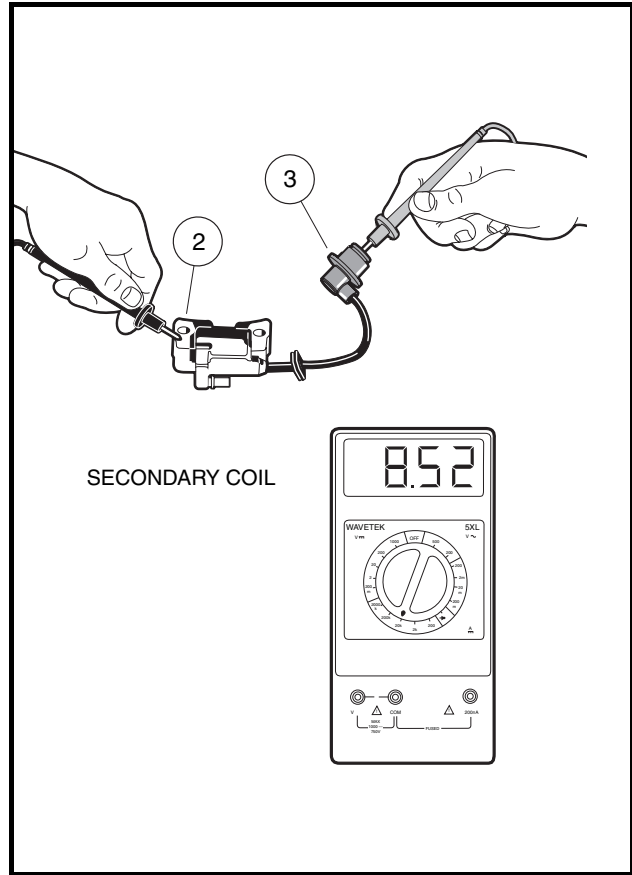

Figure 11-25 Secondary Coil and Cap Resistance – Bench Test
- 3.1. Place the red (+) probe of the meter into the end of the spark plug cap that normally connects to the spark plug (3) and place the black (–) probe on the core (2) (**Figure 11-25, Page 11-25**).